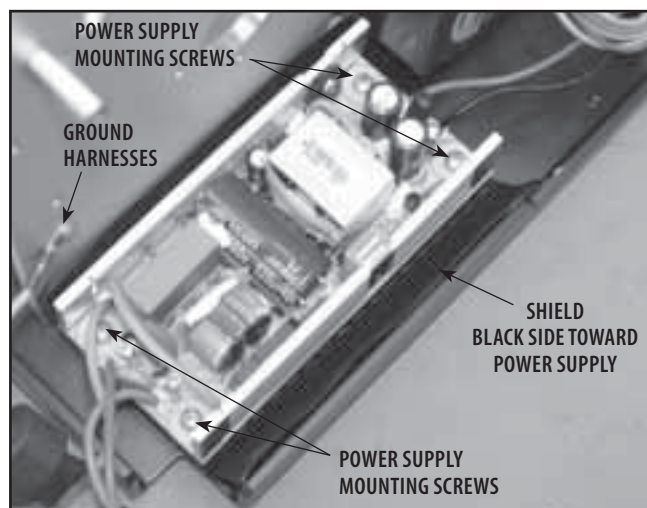

FIGURE 6.53
2. Make certain the Shield is in place with the nonconductive (black) side toward the Power Supply. Position the Power Supply on the Chassis. Secure with the four Power Supply Mounting Screws. See Figure 6.53.
3. Using the 3/32 in Allen Wrench and Ground Harness Mounting Screw, secure the Ground Harnesses from the Power Supply and the Mains Connector to the Chassis. See Figure 6.53.